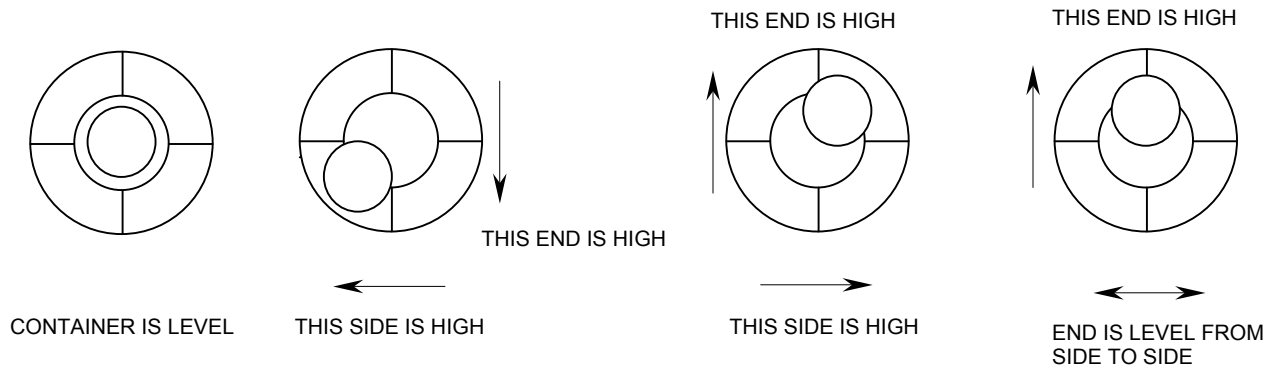

Figure 3. Bubble Level Indications.
- Locate the bullseye level mounted on the end of the container in a recess in the corner block, to the left of the personnel access door. Figure 3 shows typical bubble level indications and what they mean.
1. Locate the two bullseye levels mounted on the ends of the container, in recesses in the corner blocks. One is to the left of the personnel access door, and the other is at the opposite end, to the left of the mechanical room doors. Using the levels, identify the high end of the container (personnel door end or mechanical room end). Figure 3 below shows typical level indications and what they mean.